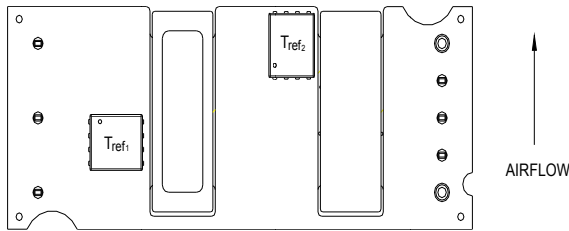
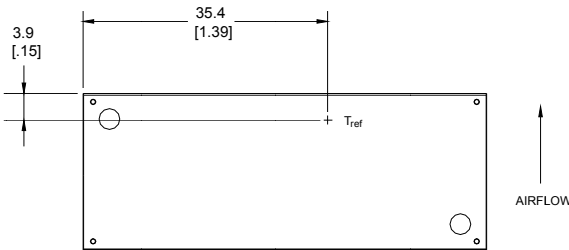

Figure 13.  $T_{ref}$  Temperature Measurement Locations for Open Frame Module.
Figure 14.  $T_{ref}$  Temperature Measurement Location for Module with Heat plate.
To provide protection under certain fault conditions, the unit is equipped with a thermal shutdown circuit. The unit will shutdown if the thermal reference point,  $T_{ref}$ , exceeds 135 $^{\circ}$ C (Figure 13, typical) or 120 $^{\circ}$ C (Figure 14, typical), but the thermal shutdown is not intended as a guarantee that the unit will survive temperatures beyond its rating. The module will automatically restart upon cool-down to a safe temperature.
The thermal reference points,  $T_{ref1}$ , &  $T_{ref2}$ , used in the specifications for open frame modules are shown in Figure 13. For reliable operation these temperatures should not exceed 120 °C and 124 °C
The thermal reference point,  $T_{ref}$ , used in the specifications for modules with heatplate is shown in Figure 14. For reliable operation this temperature should not exceed 98 °C.